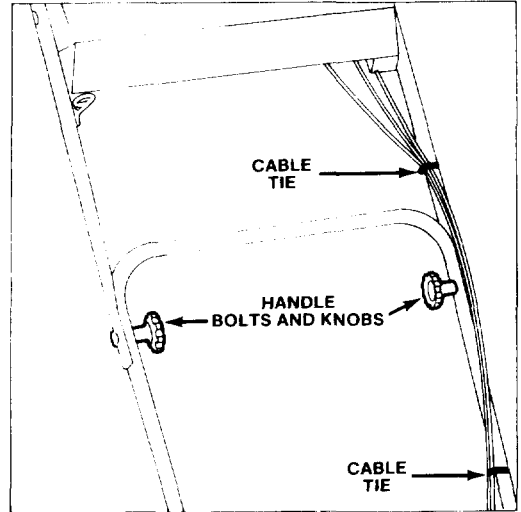

Figure 2
2. **UPPER HANDLE** (Fig. 2) — Secure upper and lower handles in place with handle bolts and knobs. Control cables must be in front of lower handle cross member. Secure control cables in position with cable ties.